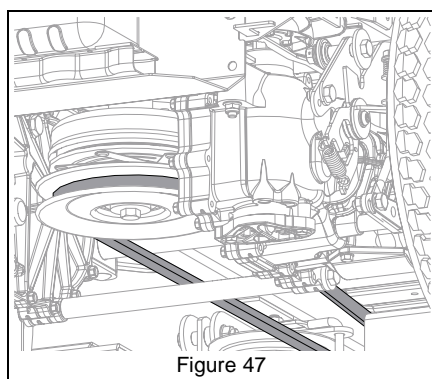

Figure 47
5. Remove deck drive belt from rear drive pulley. See Figure 47.